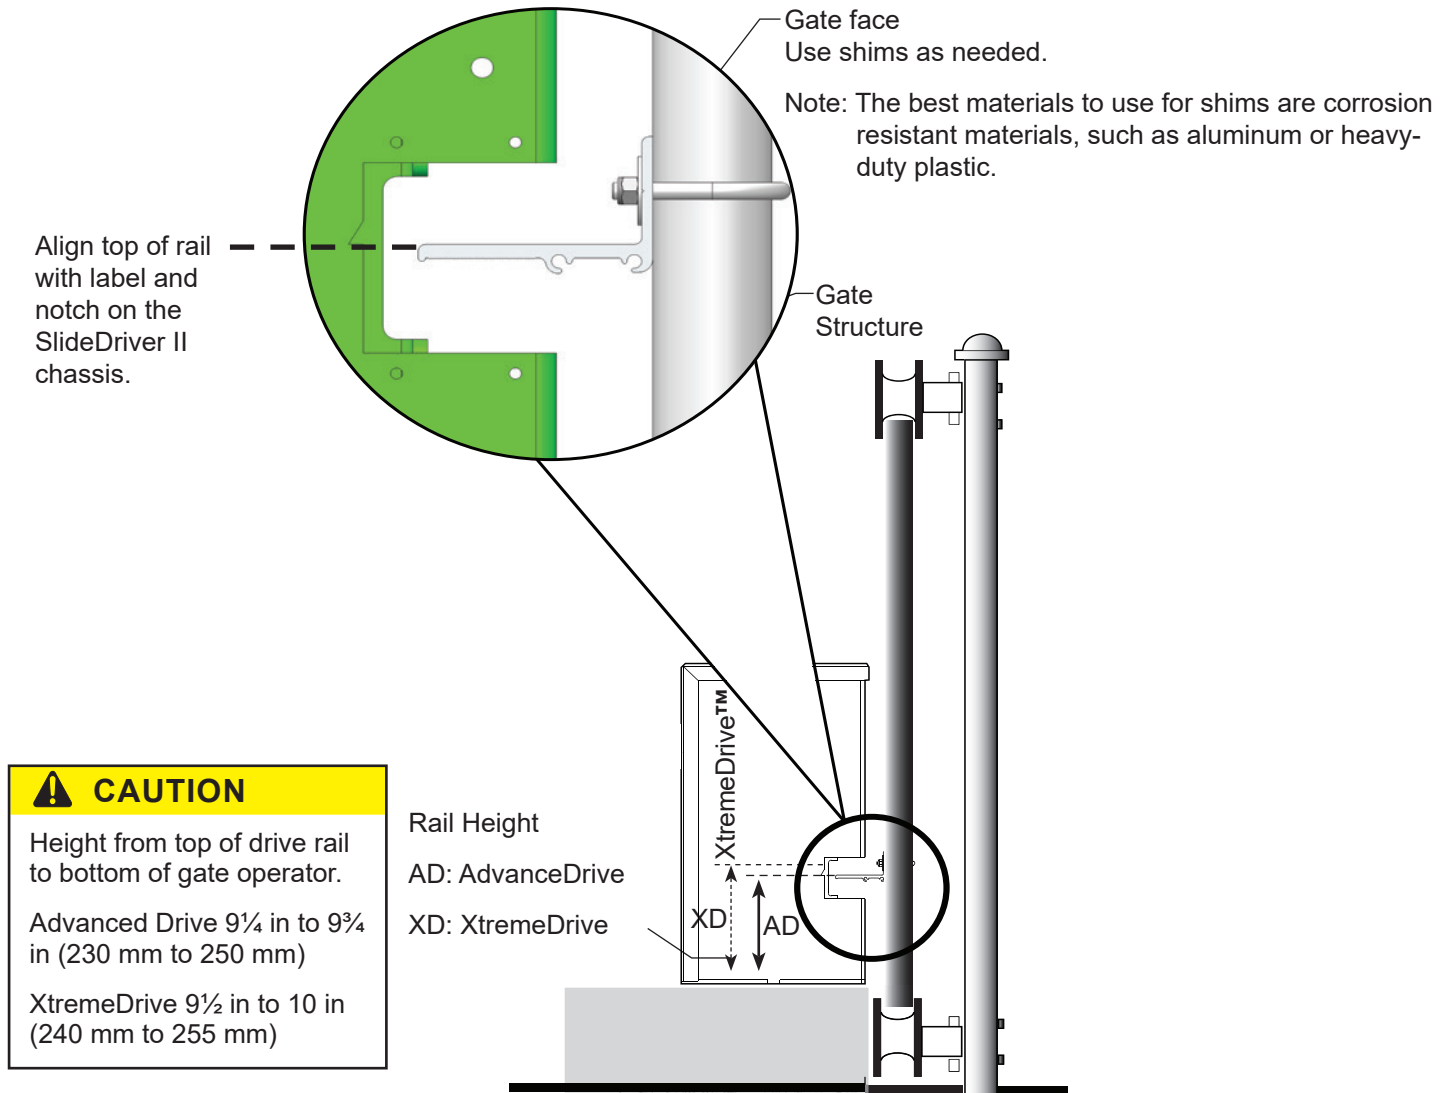

Figure 9. Set Drive Rail Depth and Height
6. Align the top of the drive rail with the notch on each side of the operator's chassis. If necessary, loosen the clamps and move the drive rail up or down along the length of the gate (Figure 9). Manually move the gate and repeat this step at each gate upright.
Make sure the flanged drive rail is aligned with the notch in the chassis (Figure 9).